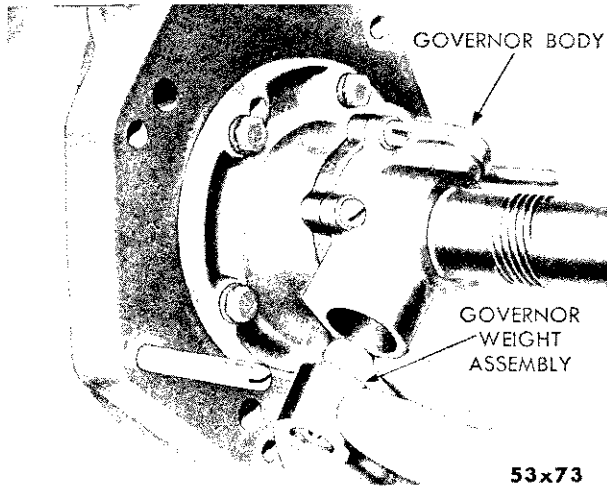
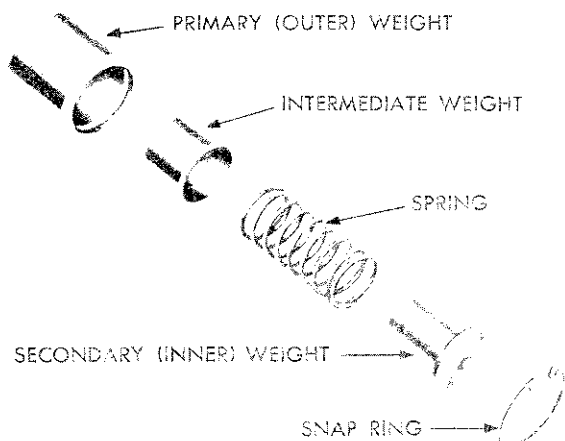
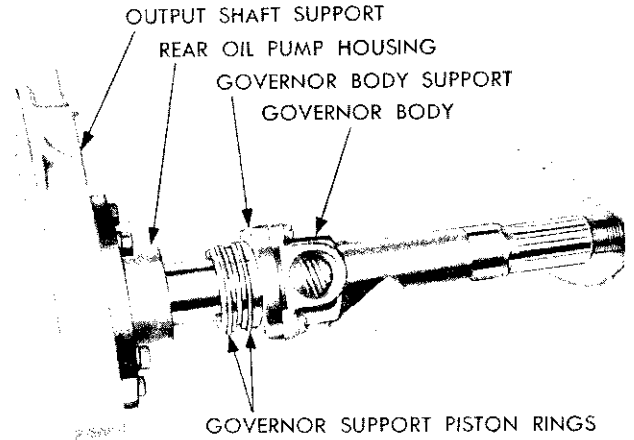

Fig. 14—Removal and Installation of Governor Weight Assembly
Fig. 15—Governor Weight Assembly (Exploded View)
Fig. 16—Removal and Installation of Governor Body and Support
weight assembly snap ring (large one), and remove the governor weight assembly from the governor body (Fig. 14). Remove governor secondary weight snap ring (Fig. 15) using pliers, Tool C-3229.
(4) Remove governor secondary weight and spring and the intermediate weight. Inspect all parts (Fig. 15) for burrs and wear. Check intermediate weight for free movement in primary weight by placing intermediate weight in primary weight. Intermediate weight should fall freely when both parts are clean and dry. Inspect spring for distortion and inspect secondary weight.
(5) Remove governor locating screw from the governor body and output shaft.
(6) Slide governor body and support from output shaft (Fig. 16). Remove and inspect the two governor support piston rings.
(7) Remove the four governor body to support